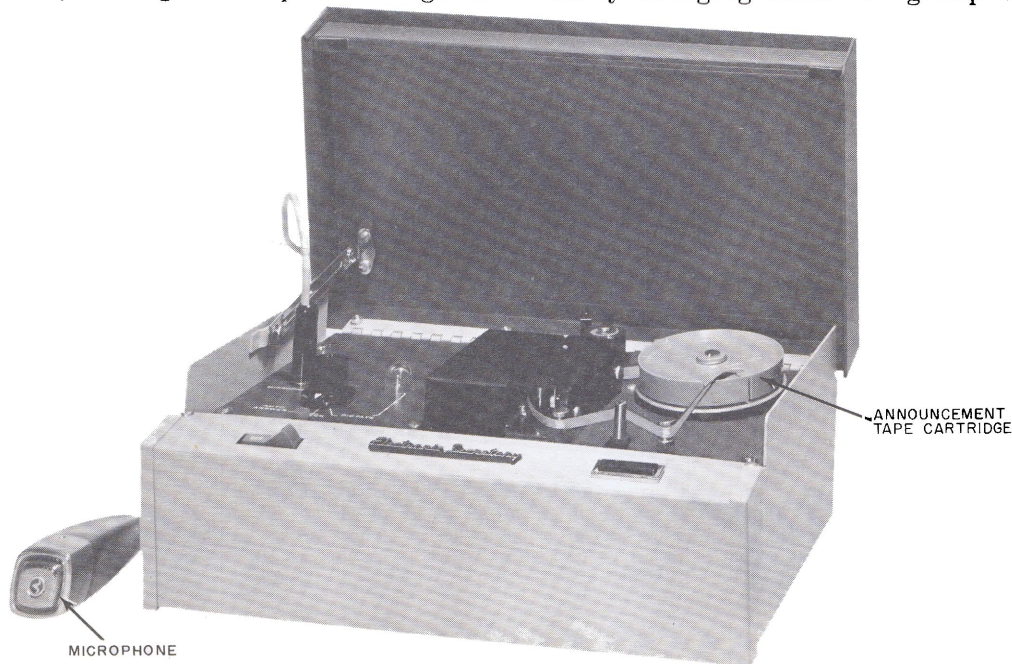

Figure 1. Model AO-3 (Front View).
1.02 The Electronic Secretary® Model AO-3 (see Figure 1) is an automatic answering device utilizing a magnetic tape cartridge as